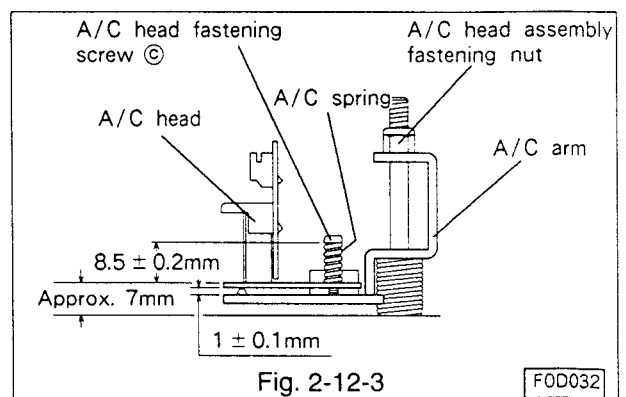

Fig. 2-12-3
Install the A/C head to the A/C arm so that the base surface of the A/C head shall be parallel to the A/C arm, and their spacing and the A/C head installation screw(c) height shall be as specified in Fig. 2-12-3.
- Tighten the A/C head assembly fastening nut so that the base surface of the A/C head shall be about 7mm above the main plate surface.(Refer to Fig. 2-12-3.)